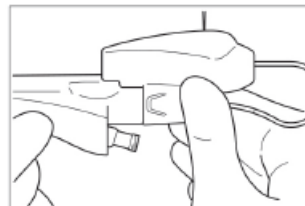
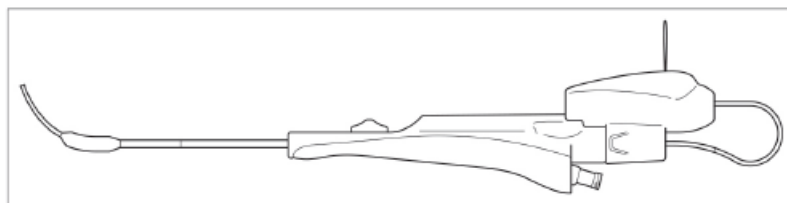

Figure 3
Figure 4
3. Attach the LED Light Fiber housing to the barbed fitting of the XprESS device (Figure 3). Align the distal tip of the fiber with the distal end of XprESS (Figure 4).